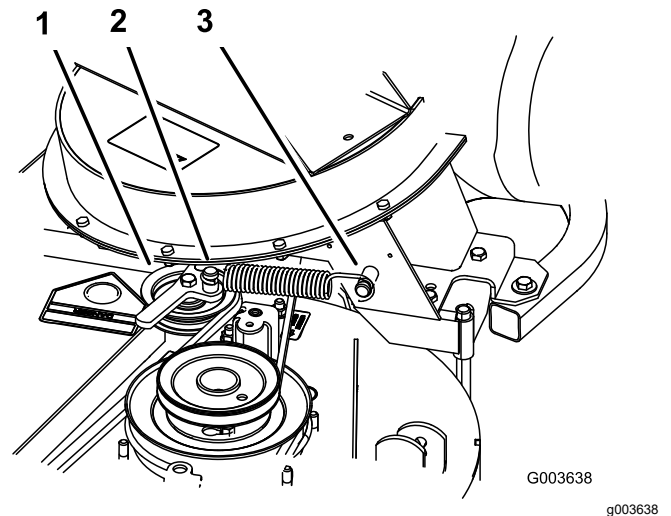

Figure 20
- Install the spring as shown in Figure 20.